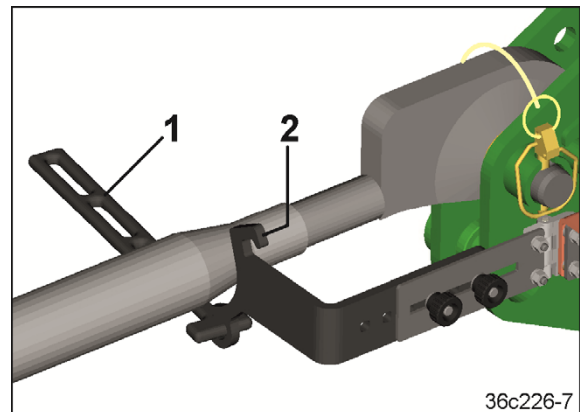

Fig. 92
3. Hook the tensioning element (Fig. 92/1) onto the top link bracket (Fig. 92/2).